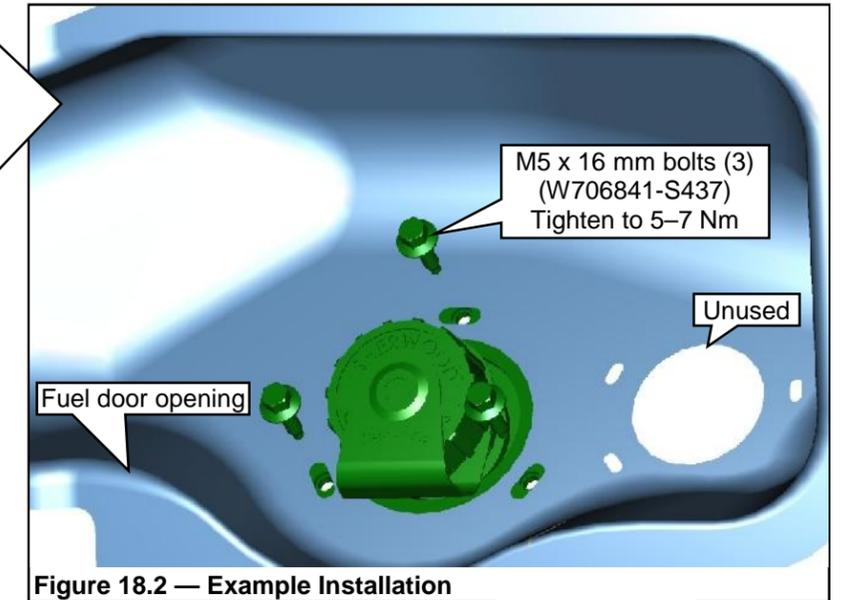

Figure 18.2 — Example Installation
2. If applicable, install fuel fill valve and fuel fill bracket behind factory fill area using three M5 x 16 mm bolts and washers. Tighten the bolts to 5–7 Nm. **Figures 18.2 and 18.3.**